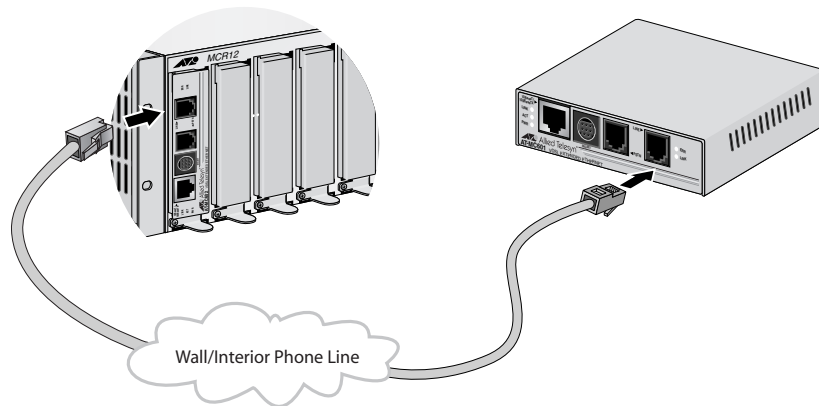

Figure 11 VDSL Line to Wall/Interior Phone Line
3. Next, connect a telephone line cable from the VDSL Line port to the wall/interior telephone line, as shown in Figure 11, so that the Subscriber unit can communicate with the Provider unit.